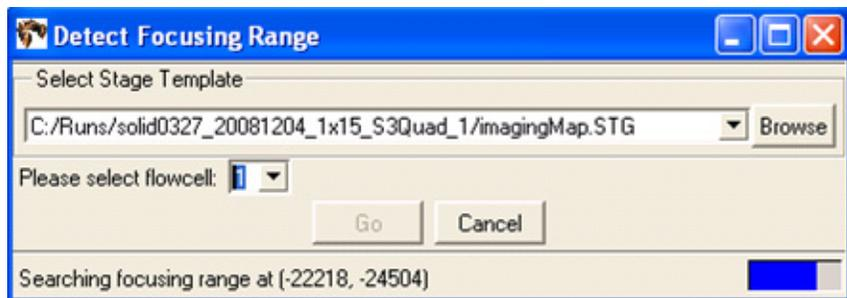

Figure 37 Detect Focusing Range Dialog while detection in progress.
4. Select the flowcell using the drop-down menu, then press **Go**. The Imager works for several minutes while it determines the range. The blue progress bar indicates how close it is to completion (see Figure 37). You can also click **Cancel** so that the Imager aborts the ranging operation.